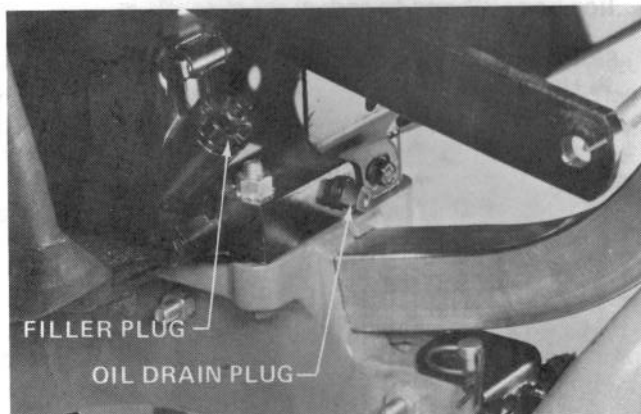

Figure 22
3. Clean area around drain plug (Fig. 22). Next, place shallow drain pan below drain plug so oil can run into pan.